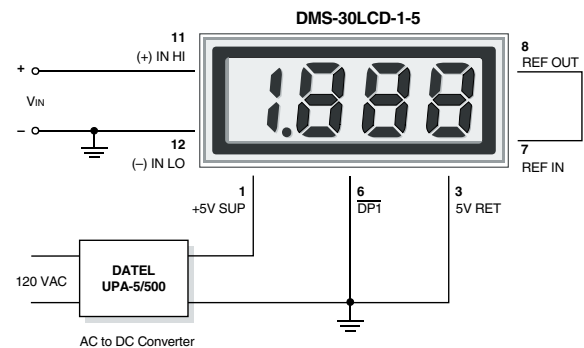

Figure 2. Single-Ended Input Configuration (5V-Powered Models)
- 1. Single-Ended Input Configurations:** True single-ended measurements can only be made with 5V-powered meters. The circuit of Figure 2 avoids problems normally associated with ground-loop currents. Separate ground runs should be used for 5V RETURN (pin 3) and (–) INPUT LO (pin 12).